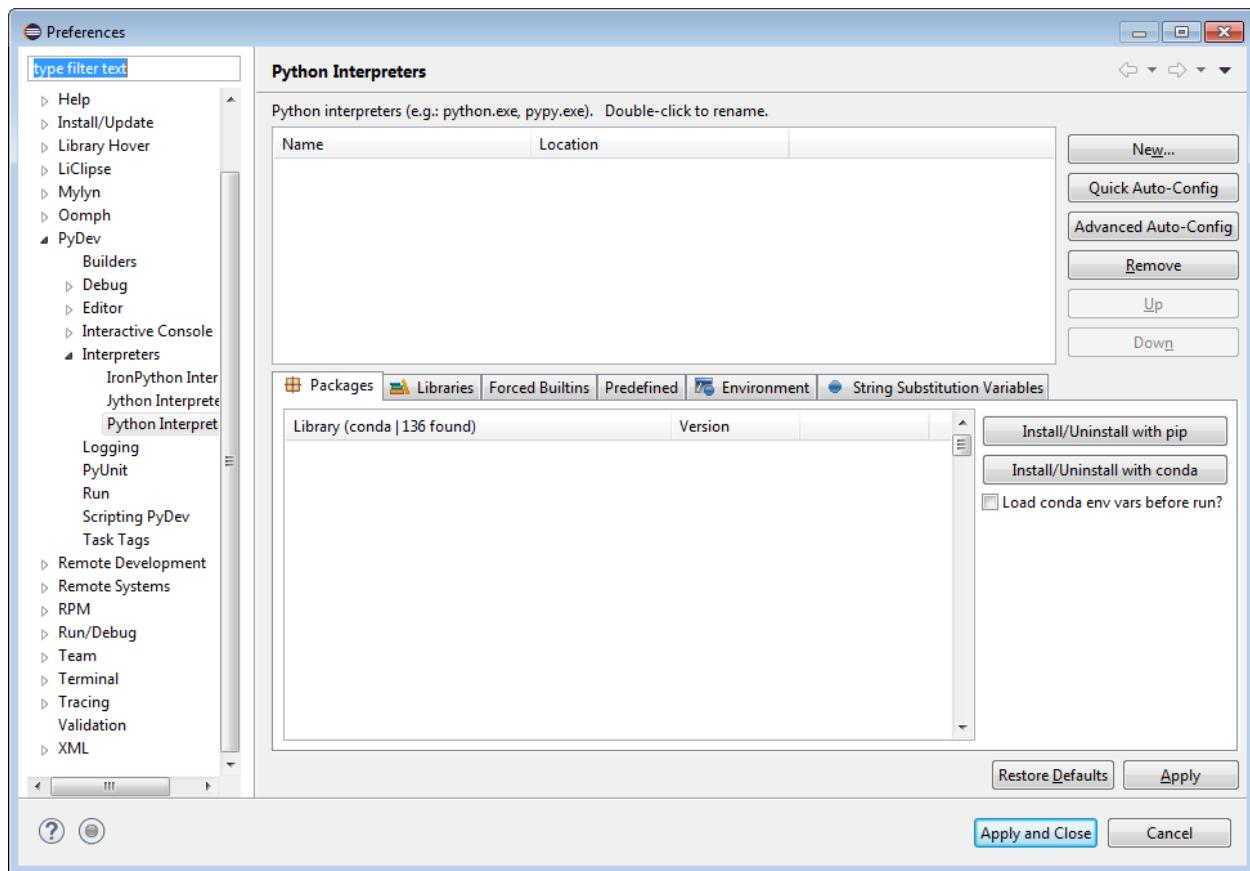

Fig. 11.6: Selecting the python interpreter
1. Open Window -> Preferences -> PyDev -> Interpreters -> Python Interpreter, as shown in Fig. 11.6.